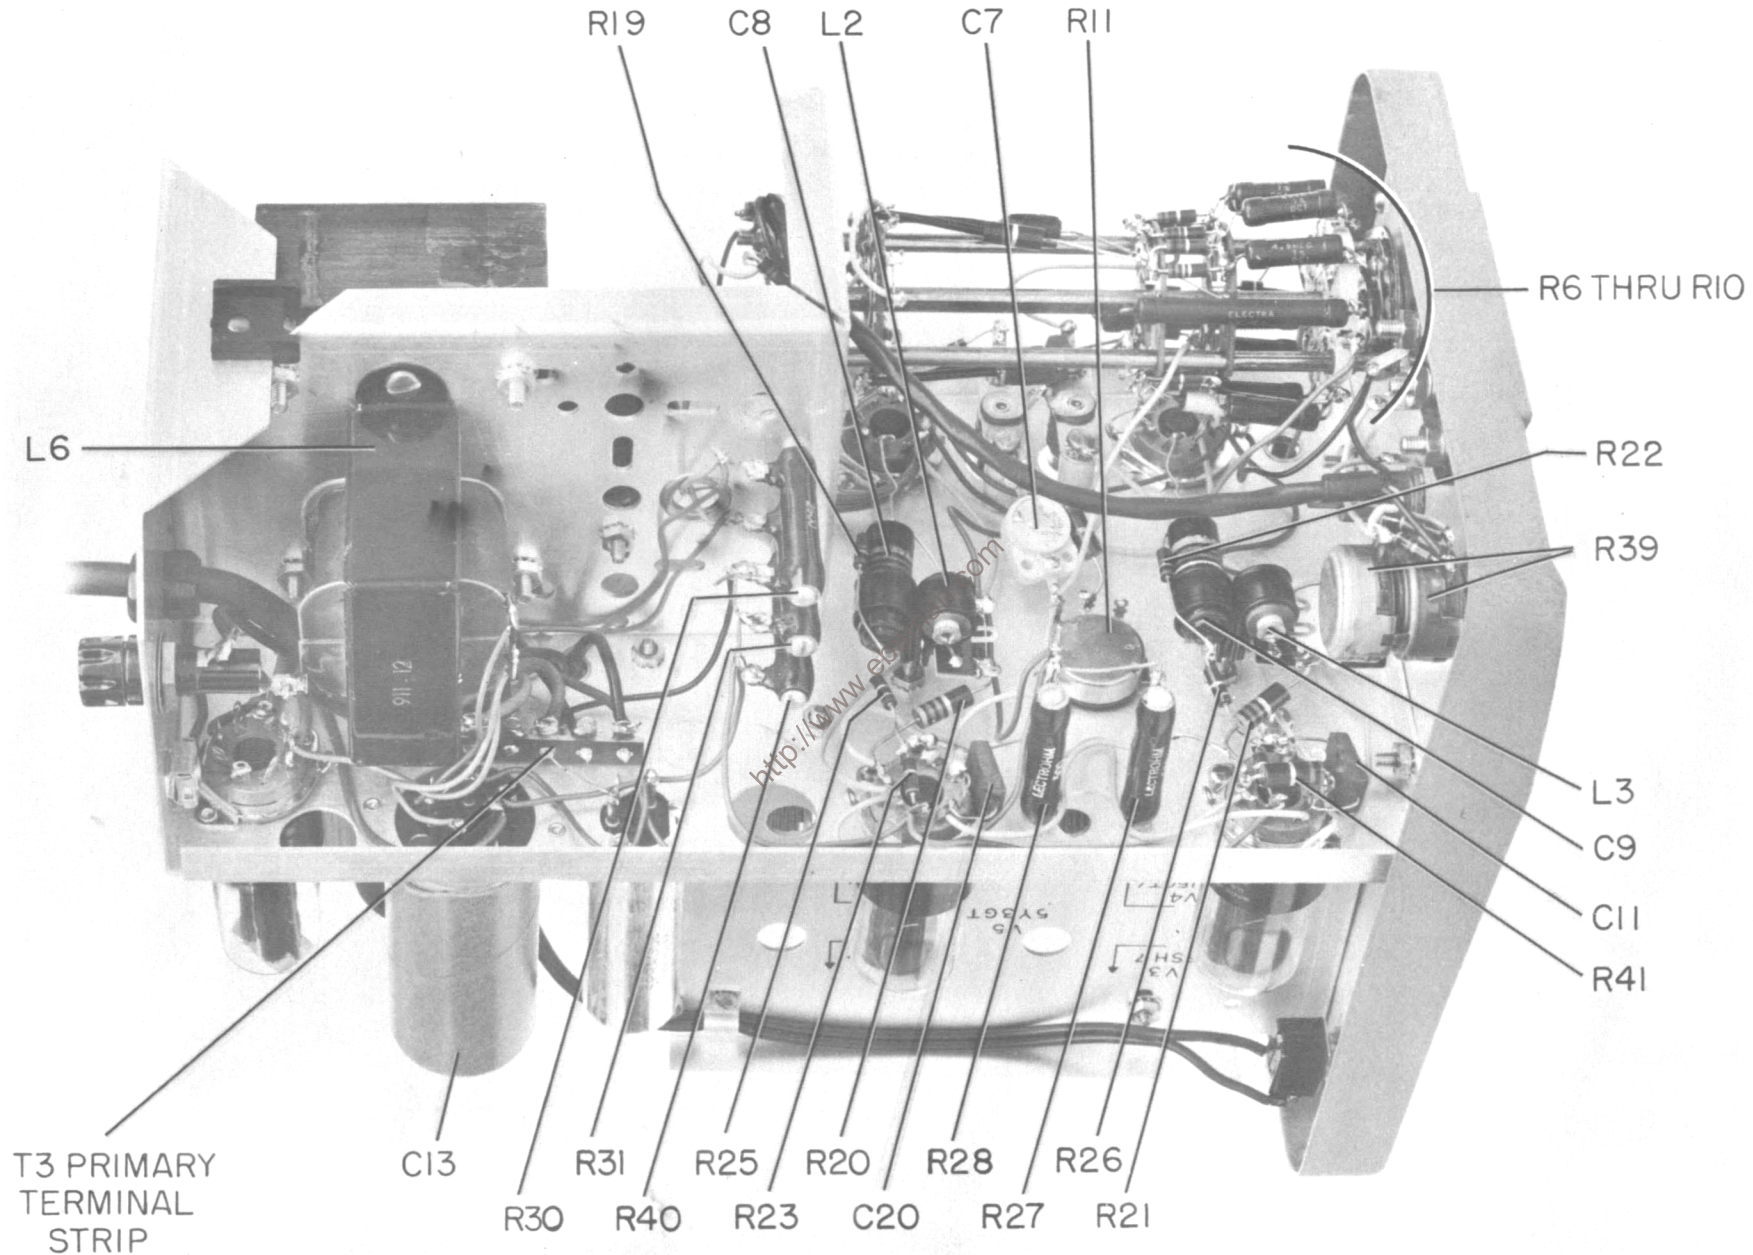

Figure 4-3 Model 200CD View of Right Side Bottom Side Up
- 2) If "60" on X10K range not on calibration, adjust C7 (Figure 4-3).
Connections to the primary winding of power transformer T3 are brought out to a terminal strip (identified in Figure 4-3) mounted on the right side of the instrument.